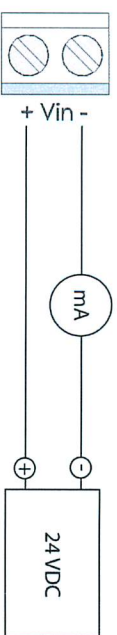

Figure 2 Wiring for 2-wire Output
- **2-wire output:** see Figure 2. Provide a 24 VDC supply voltage.